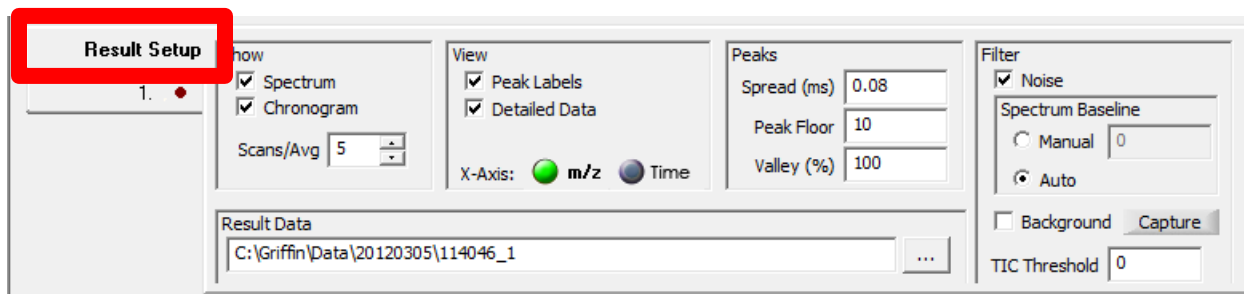

Figure 4.8 – Result setup screen
7. Click the “Result Setup” tab to change settings regarding how the data is collected and saved. All settings altered in this tab are immediate and do not need to be downloaded to the instrument (Figure 4.8).